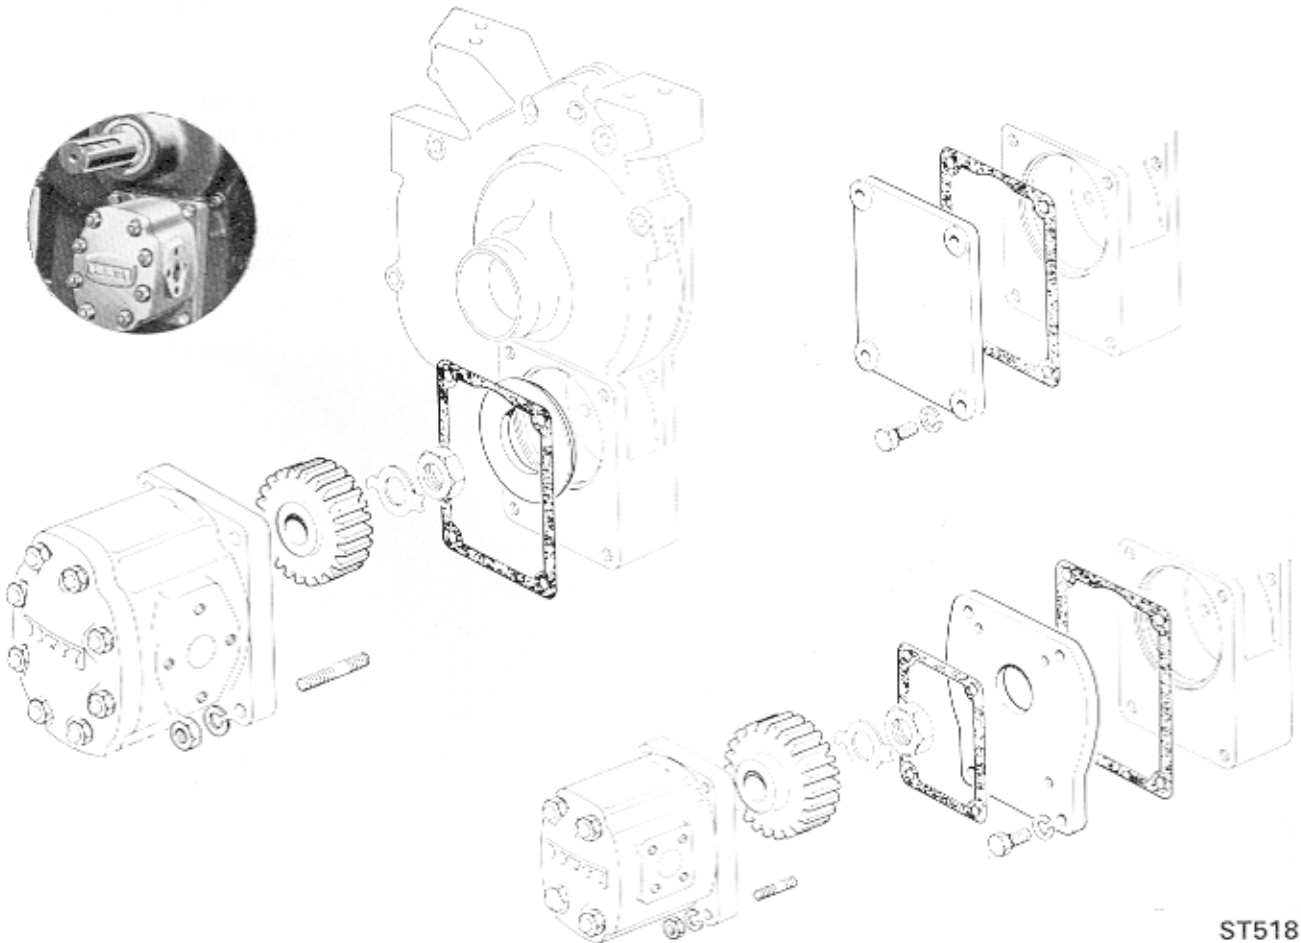

Fig. 101. Hydraulic Pump Mounting — Gear End
**Hydraulic Pump Mounting—Gear End (Fig. 101)**